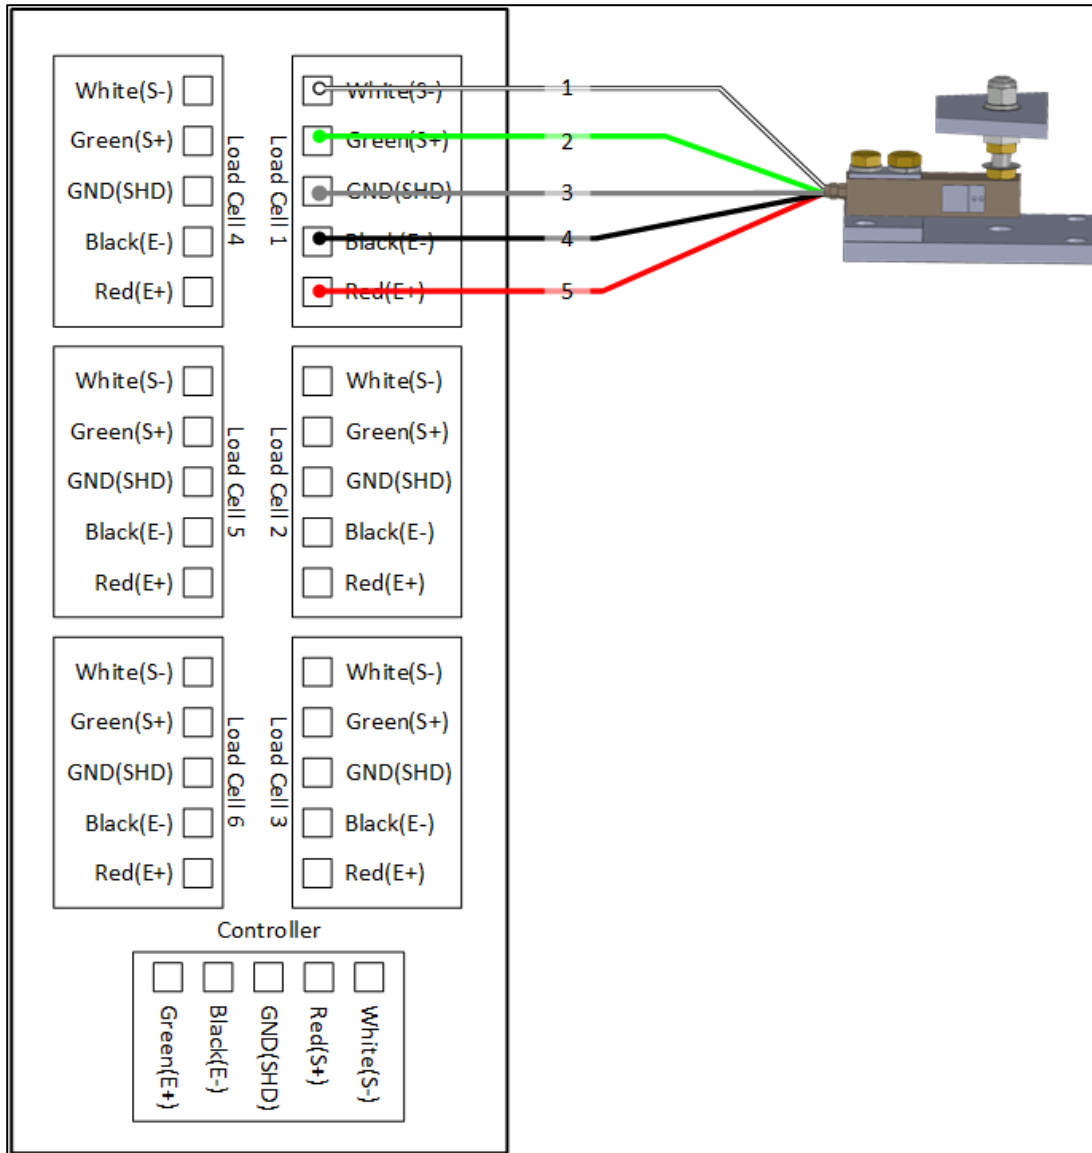

Figure 6: RJB - RSLC Wiring
5. Wire the RJB-6 units to the RSLC units. Each RSLC (load cell) has four-wire shielded cables plus a shield cable (ground). Connect each load cell to the RJB-6 according to the colors inscribed on the RJB PCB board (Figure 6).